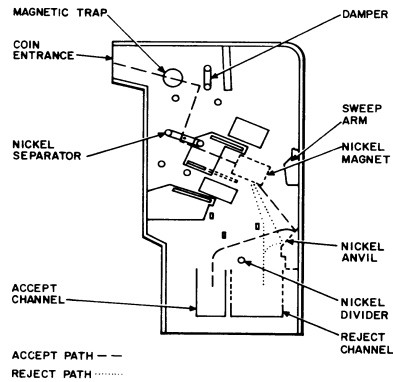

Fig. 2—Nickel Path in a Typical Coin Chute
**2.01 Nickel Operation—Valid Coin Accepted (Fig. 2).**
**2.02 Nickel Operation—Coin Rejected (Fig. 2).**